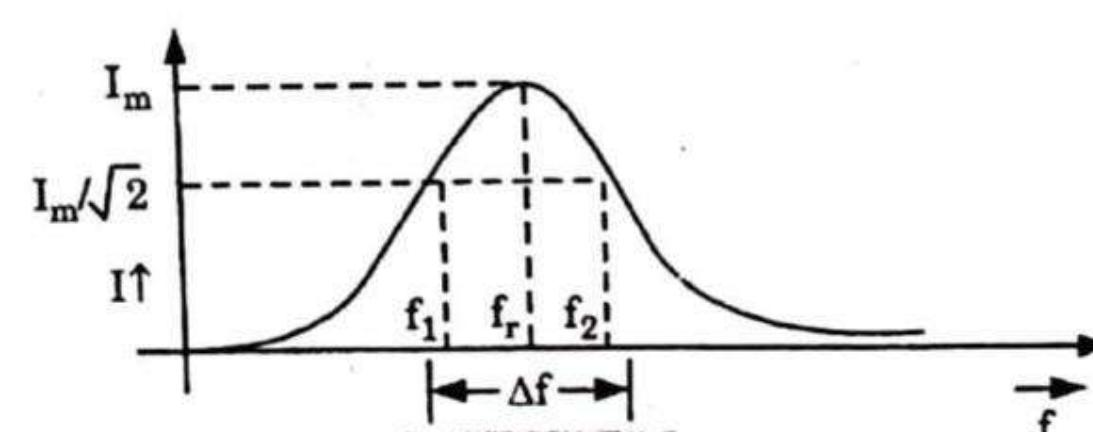

Fig. 2.29.1.
- Consider resonance curve as shown in Fig. 2.29.1.
$$\therefore \text{From Fig. 2.29.1 } f_1 = f_r - \frac{\Delta f}{2} \quad \dots(2.29.9)$$